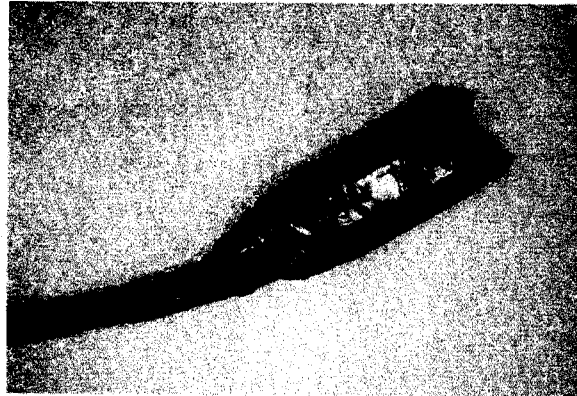

Figure 22
5.07 Wrap the entire "Unipak" bag with two layers of vinyl tape as shown in Figure 22.